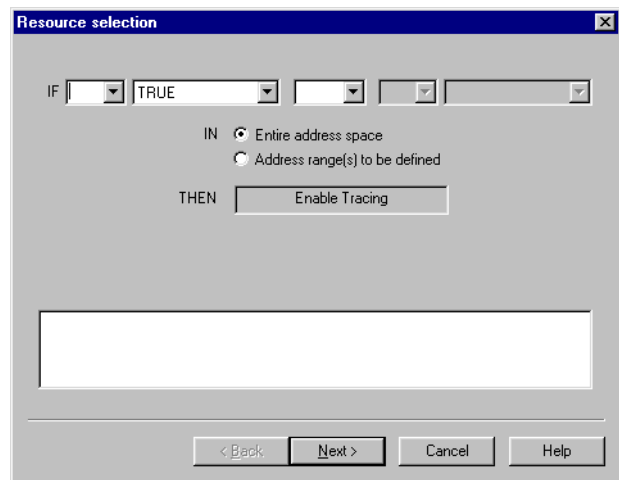

Figure 8-14 Resource selection for Enable Tracing
2. Double-click **Enable Tracing** in the Actions list to define a rule. The Enable Tracing Resource selection dialog box shown in Figure 8-14 is displayed.